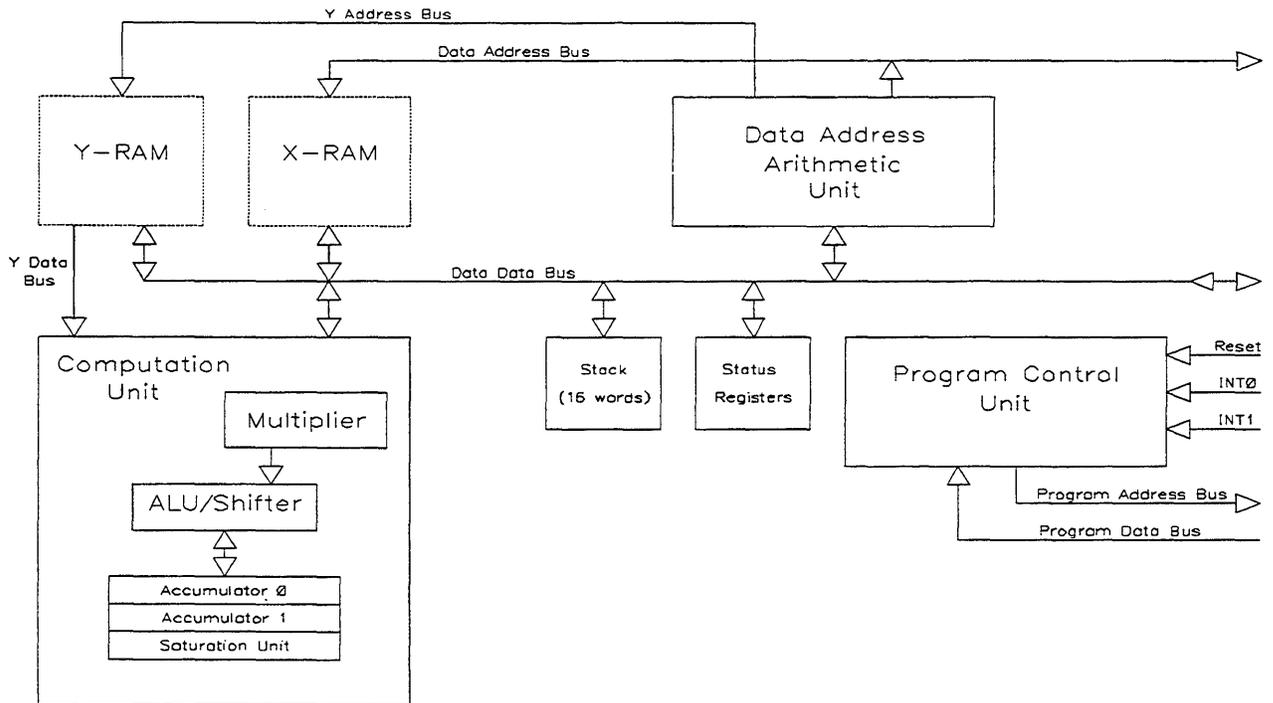

Figure 3-1 DSP Core Block Diagram
The chip is designed around a 16-bit general-purpose Digital Signal Processor (DSP) core. The DSP (see Figure 3-1) consists of three main execution units operating in parallel: the Computation unit (CU), the Data Address Arithmetic Unit (DAAU), and the Program Control Unit (PCU). The CU has a 16 x 16 multiplier, 36-bit ALU, and two 36-bit accumulators. The DSP has a 16 level hardware stack and can be accessed as a Last-In-First-Out (LIFO) data register file. The stack is automatically loaded with the Program Counter whenever a subroutine call or an interrupt occurs, and is popped back on return from subroutine or interrupt respectively.